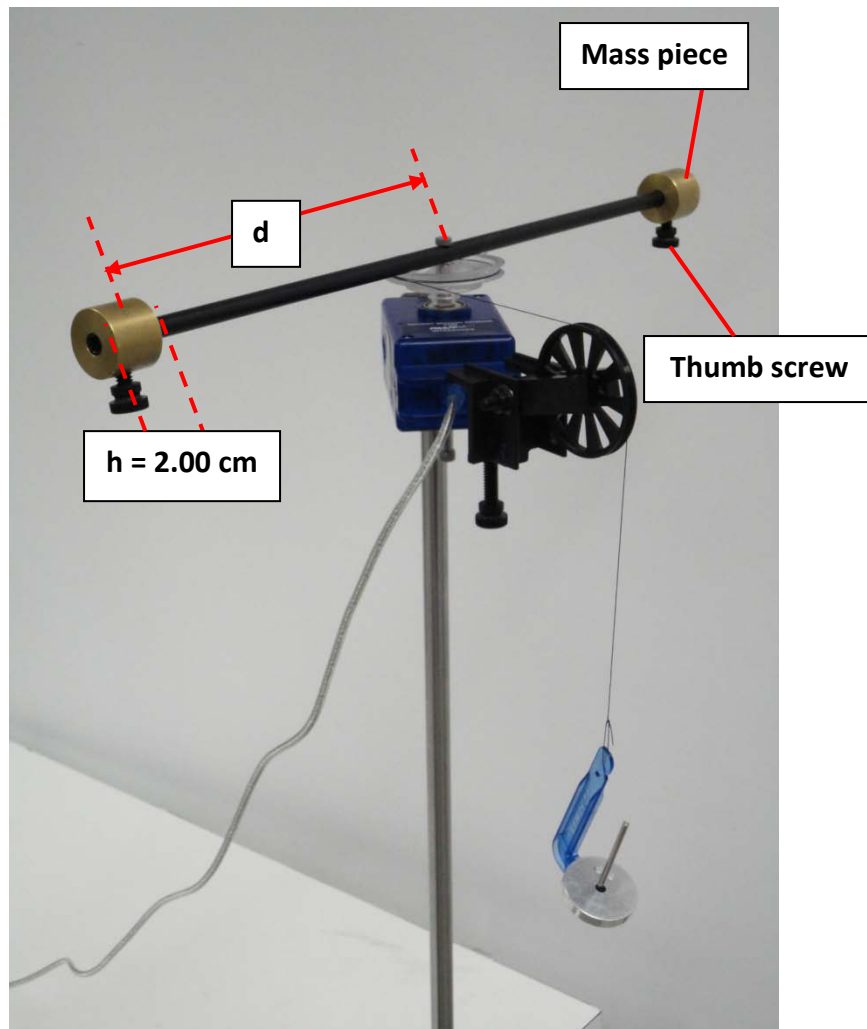

Figure 8
2. Set the two mass pieces flush with the ends of the rod and lock it with the thumbscrew. This will place the two mass pieces at equal distance $d = 18.0$ cm from the center of rotation, as shown in Figure 8. Note that the distance from the center to one of the edges is 19.0 cm and the height of the mass pieces $h = 2.0$ cm. Therefore aligning the end of the mass piece exactly to the edge of the rod will make $d = 18.0$ cm.